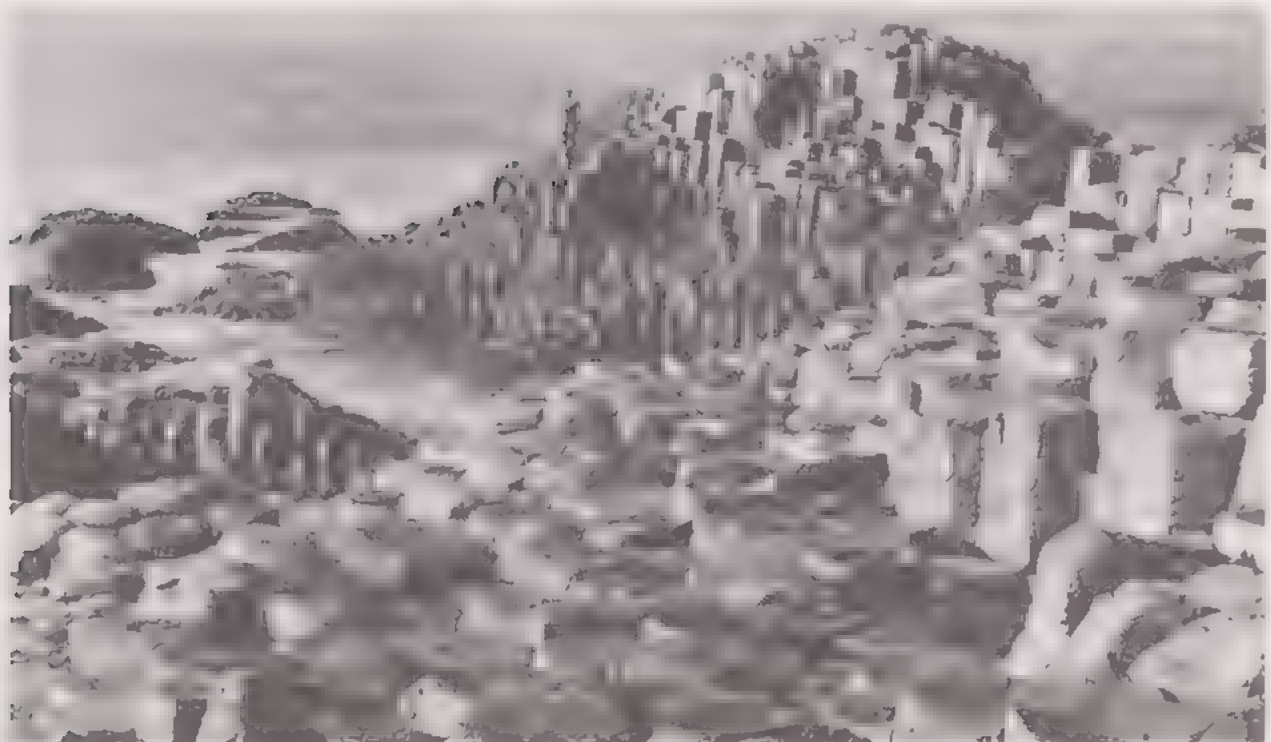

FIGURE 13 The Giant's Causeway, formed by the cooling of volcanic rock at the surface of the Earth
- You might have found a large area in Northern Ireland that includes the Giant's Causeway (shown in Figure 13), or the islands off the west coast of Scotland. Any of the areas showing the v v v ornament are areas of volcanic rocks.